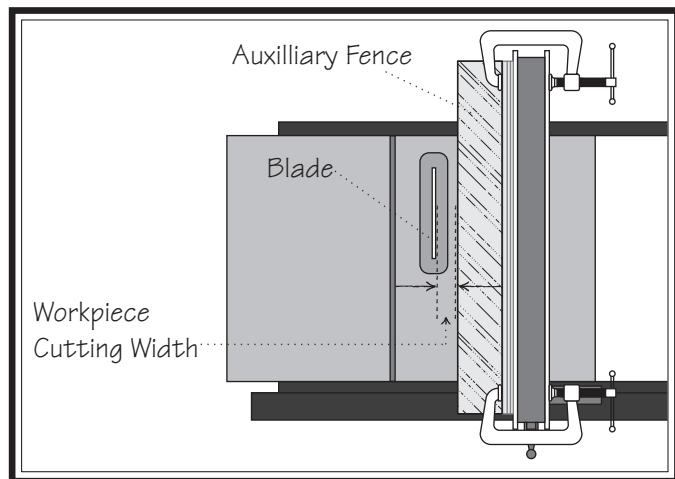

Figure 98. Adjusting ripping distance between blade and auxiliary fence.
1. Place auxiliary fence on table and clamp it to fence at both ends, then adjust distance between auxiliary fence and blade—this determines how wide workpiece will be ripped (see **Figure 98**).